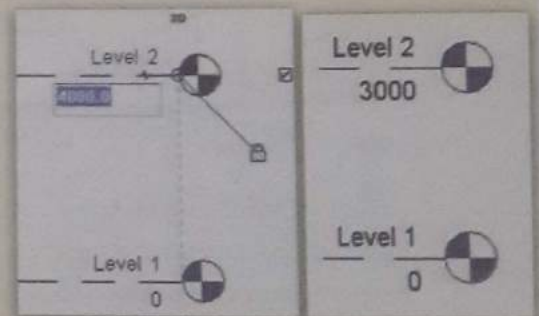

Figure 6&7: Editing the Elevation Value.
1. Double click on the level 2 elevation value and enter 3000. (Figure 6&7)